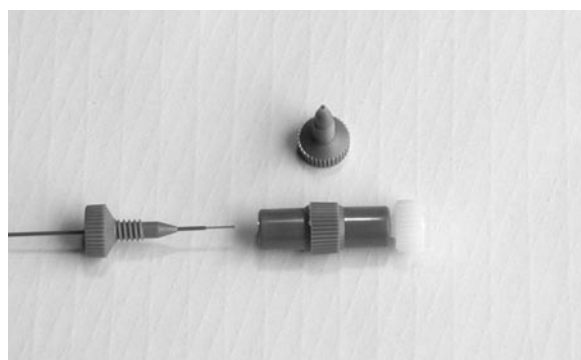
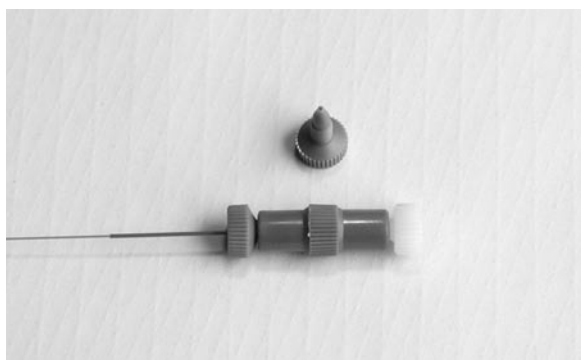

Figure 5.3: MicroTight® union with gauge plug and compression assembly ready to load
Figure 5.4: MicroTight® union with gauge plug and compression assembly loaded
- 2) Screw the white gauge plug finger-tight on to one end of the union. Thread the fused-silica transfer line through a green MicroTight sleeve. The appropriate sleeve size is 0.002–0.003 inches greater than the OD of the capillary tubing. Use the green MicroTight sleeves with 360 µm OD tubing. After the transfer line passes through a green sleeve, thread it through one of the compression fittings. Figure 5.3 shows the union loaded with the white gauge plug on the right and fused-silica tubing threaded through a tubing sleeve and a compression fitting. Cleave the end of the tubing and slip it into the union until both the tubing and the sleeve ends seat against the gauge plug inside the union. Screw the compression fitting finger-tight into the union, as shown in Figure 5.4.